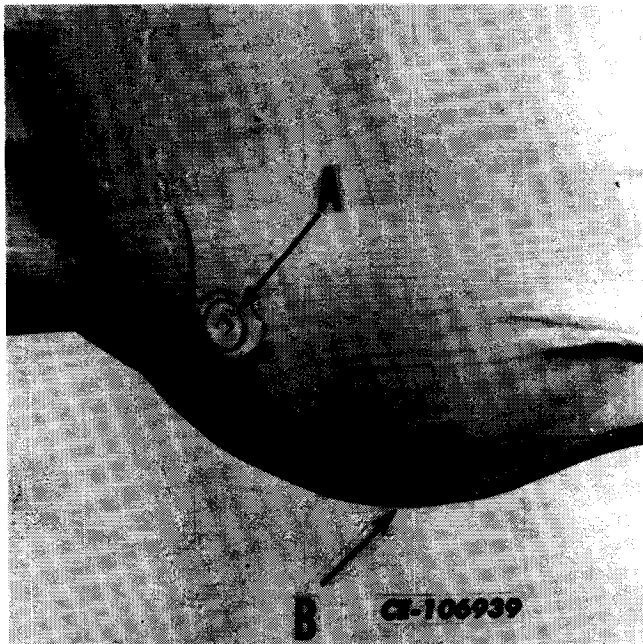

Fig. 9
2. Remove the filler and level plug (A, Fig. 9). If the lubricant level is low (below the level plug) add lubricant. Refer to "LUBRICANT SPECIFICATIONS AND CAPACITIES CHART" in this section for the grade of lubricant specified.
2. Remove the filler and level plug (A, Fig. 9) and the drain plug (B). Remove any metallic particles that may be present on the drain plug.